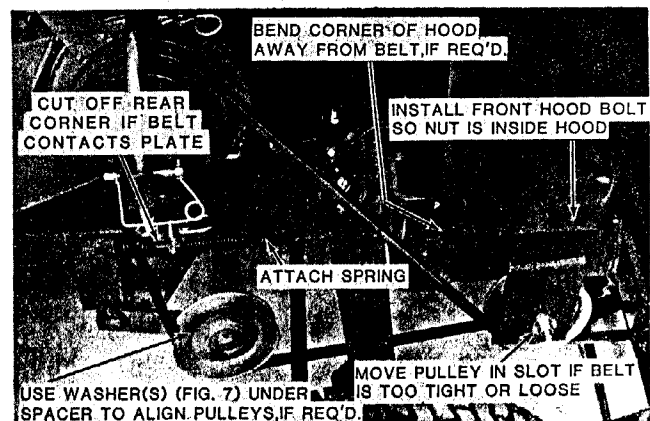

Fig. 16. Belt Installation
Install the drive belt as shown in Fig. 16. Note that one belt strand is outside the rod housing on the PTO, and that it runs below the front axle. Therefore, disassemble the PTO clutch to permit the belt to be inserted at the top. The right front wheel must also be rolled over one strand of the belt.
1. Remove the drive belt (Fig. 16)